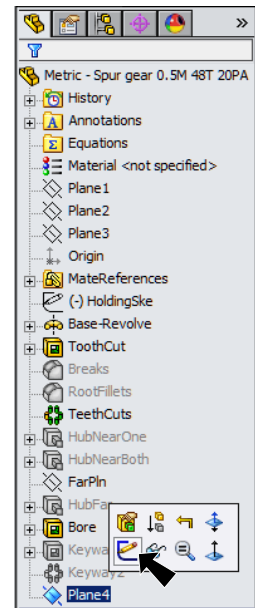
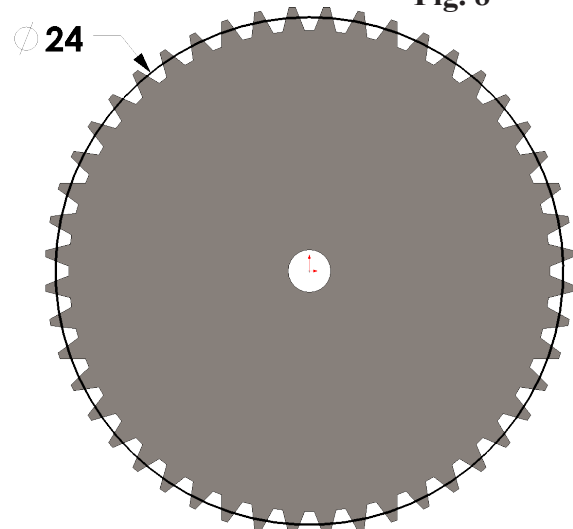

Fig. 8
Fig. 9
Step 1. Click new **Plane4**  in the Feature Manager and click **Sketch**  on the Context toolbar, **Fig. 8**.
Step 3. Click **Circle**  (S) on the Sketch toolbar.
Step 4. Draw a circle starting at the Origin , **Fig. 9**.
Step 5. Click **Smart Dimension**  (S) on the Sketch toolbar.
Step 6. Dimension circle **diameter 24**, **Fig. 9**.